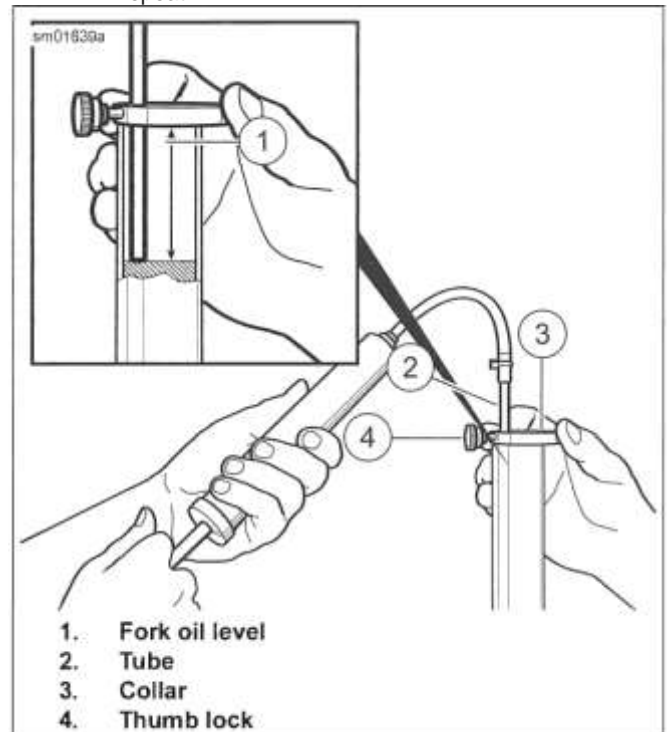

Figure 3-71. Oil Level Gauge
5. See Figure 3-71. Adjust fork oil level.
- a. Adjust collar (3) of fork oil level gauge to: **Standard models:** Dimension: 3.70 in (94 mm). **Low models:** Dimension: 3.54 in (90 mm).